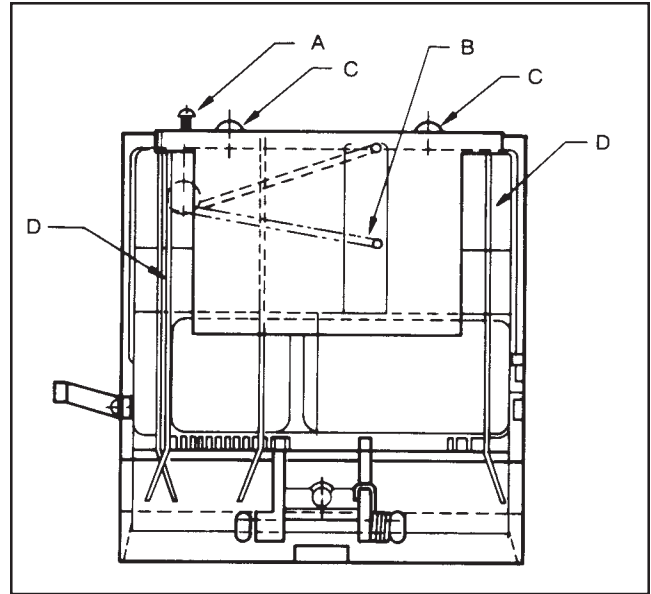

Figure 4
4. Make any necessary adjustments by referring to Figure 4.
- a. Depth adjustment - loosen screw (A), then position lever (B). Retighten screw (A).
- b. Width adjustment - remove two screws (C). Position guides (D). Replace screws (C).